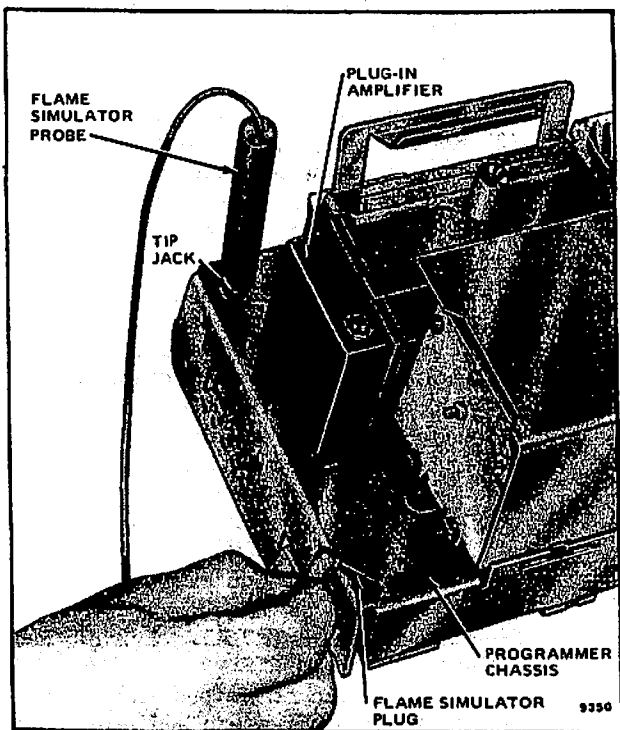

FIG. 15—USING A FLAME SIMULATOR.
- (1) Complete step 7.b.
- (2) Close the master switch.
- (3) Plug the probe of a 123514A Flame Simulator into the tip jack on the front of the programmer chassis (Fig. 15).
- (4) Hold the plug (lead end) of the simulator against the programmer chassis. Relay 2K should pull in and stay in while the plug is in contact with the chassis.
- (5) If relay 2K pulls in, the trouble is in the flame detector or its circuitry outside the programmer. Proceed to steps 8 and 9.
- (6) If relay 2K does not pull in, open the master switch.
- (7) Replace the plug-in amplifier with a new one of the same part number.
- (8) Close the master switch and repeat (4).
- (9) If relay 2K pulls in, restore the programmer to operating condition as instructed in step 8 on the next page.
- (10) If relay 2K still does not pull in, replace the programmer.